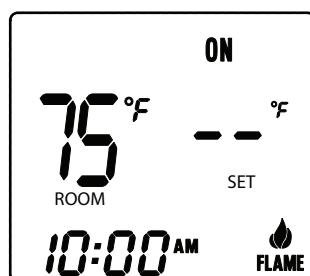

Fig. 5 Manual ON
**Step 1:** Press the MODE button one time to manually turn ON the appliance (Fig. 5).